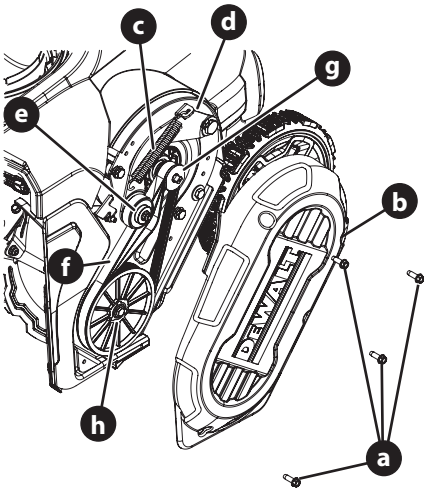

Figure 19
3. Remove the four hex washer screws (a) that secure the belt cover (b) to the motor plate (Figure 19). Remove the belt cover.